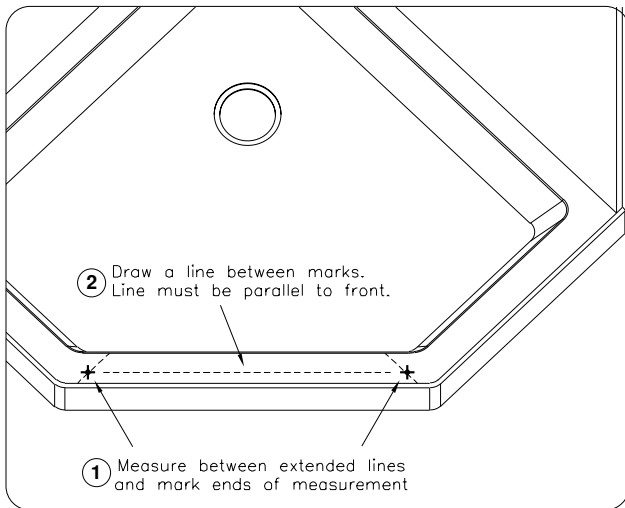

figure 4
Transfer measurement taken above and locate it between the extended lines (see figure 4, step 1). Mark ends of measurement as shown.
Draw a line between these the two(2) marks (see figure 4, step 2). Make sure line is parallel to front of curb.